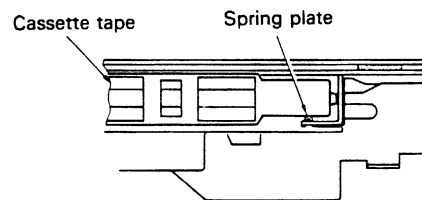

Fig. 19
4. As arm (A) moves, the tape/tuner switch and tape power switch are shifted in the opposite direction from that set forth in Paragraphs 3 and 4 of the section entitled "Cassette Loading," above. The tape/tuner switch is shifted to the "tuner" position and the tape power switch is shifted to the "off" position, causing the motor to stop.
5. A spring plate (Figure 19) prevents the cassette from springing out of the unit.